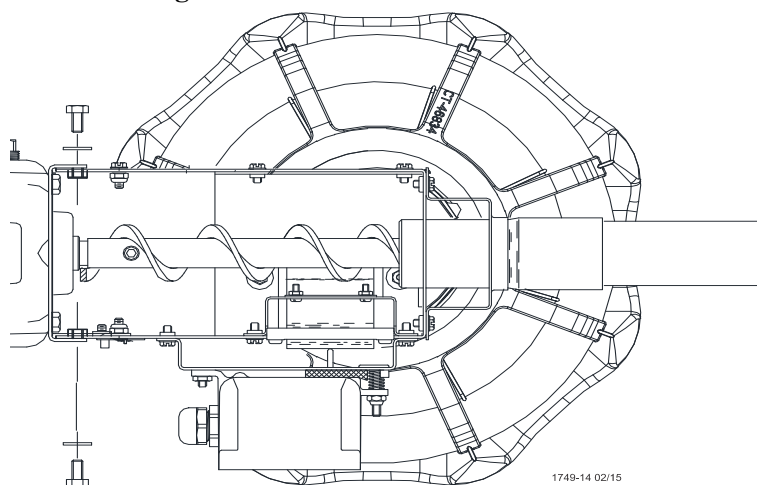

Figure 35. Attaching the Anchor Plate and Gearhead Assembly to the Control Unit Body
7. Attach the Anchor Plate and Gearhead Assembly to the Control Unit Body using the included 1/4" Lock Washers and 1/4-20 x 1/2" Bolts. See **Figure 35**.